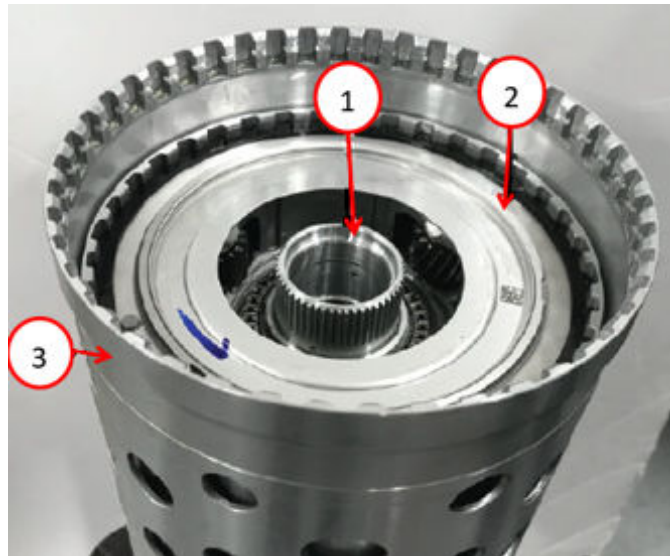

Fig. 28
41. Install the D clutch drum into the P4 annulus drum Fig. 28.